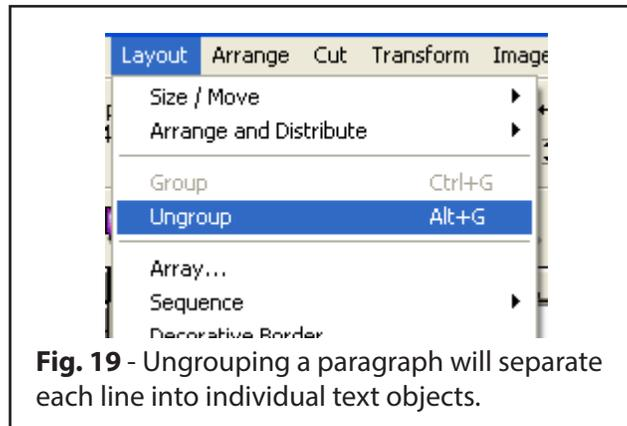

Fig. 19 - Ungrouping a paragraph will separate each line into individual text objects.
1. Choose **Layout** menu >> **Ungroup** (Fig. 19).